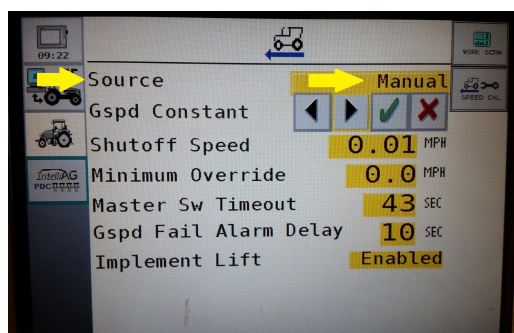

Figure 51
Step 4. Select **Source** and change to **Manual** as shown in Figure 51.